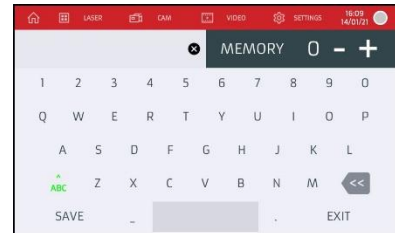

Fig. 8-64 – Program name input page
- 8 When pressed, this control area allows the operator to change the name of the program (Fig. 8-64) and save it in the desired position (in the memory index).